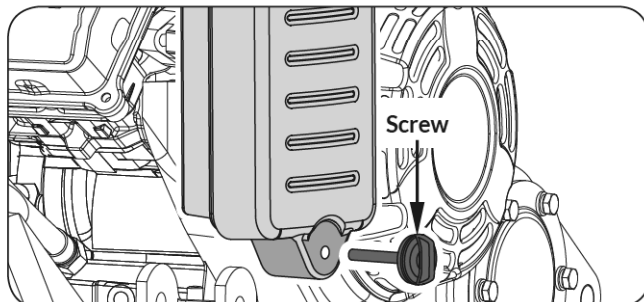

Figure 2c
3. Align the bottom hole in the filter cover and the hole in the filter seat. Fasten them together with screw. (See **Figure 2c**)